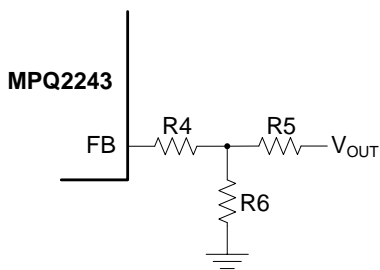

Figure 3: Feedback Network
The external resistor divider connected to FB sets V_{OUT} (see Figure 3). The feedback resistor (R4) must account for both stability and dynamic response, so it cannot be too large or too small. R5 is estimated to be 100k Ω . R6 can be calculated using Equation (2):
Using a T-type feedback network is strongly recommended (see Figure 3).